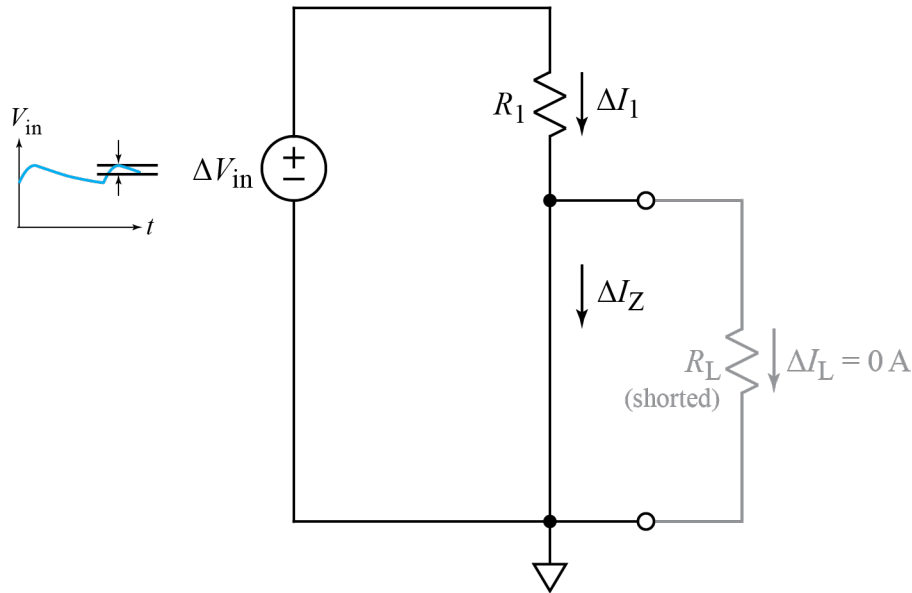

Fig. 7: AC superposition circuit for Zener regulator.
- 3) (10 pts) Write an equation for ΔI_Z in terms of ΔV_{in} and R_1 . Fig. 7 shows the circuit for the "AC" portion of the superposition. We use $\pm \Delta V_{in}$ to denote the maximum deviations of V_{in} from the average value of V_{in_mid} . The ripple voltage, ΔV_{in} , will change the current flowing in the Zener diode, perturbing it from the optimal value of I_{ZT1} .